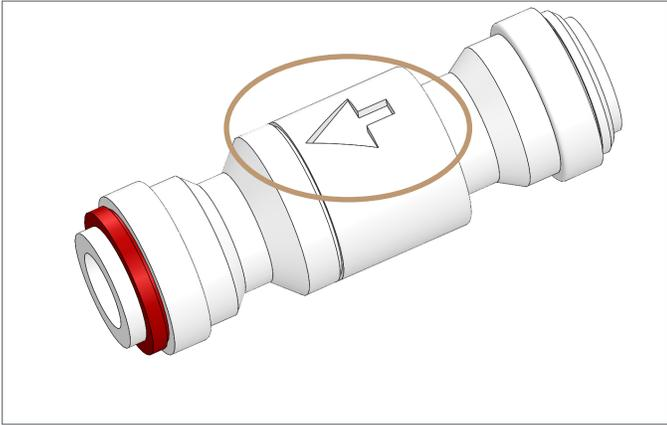
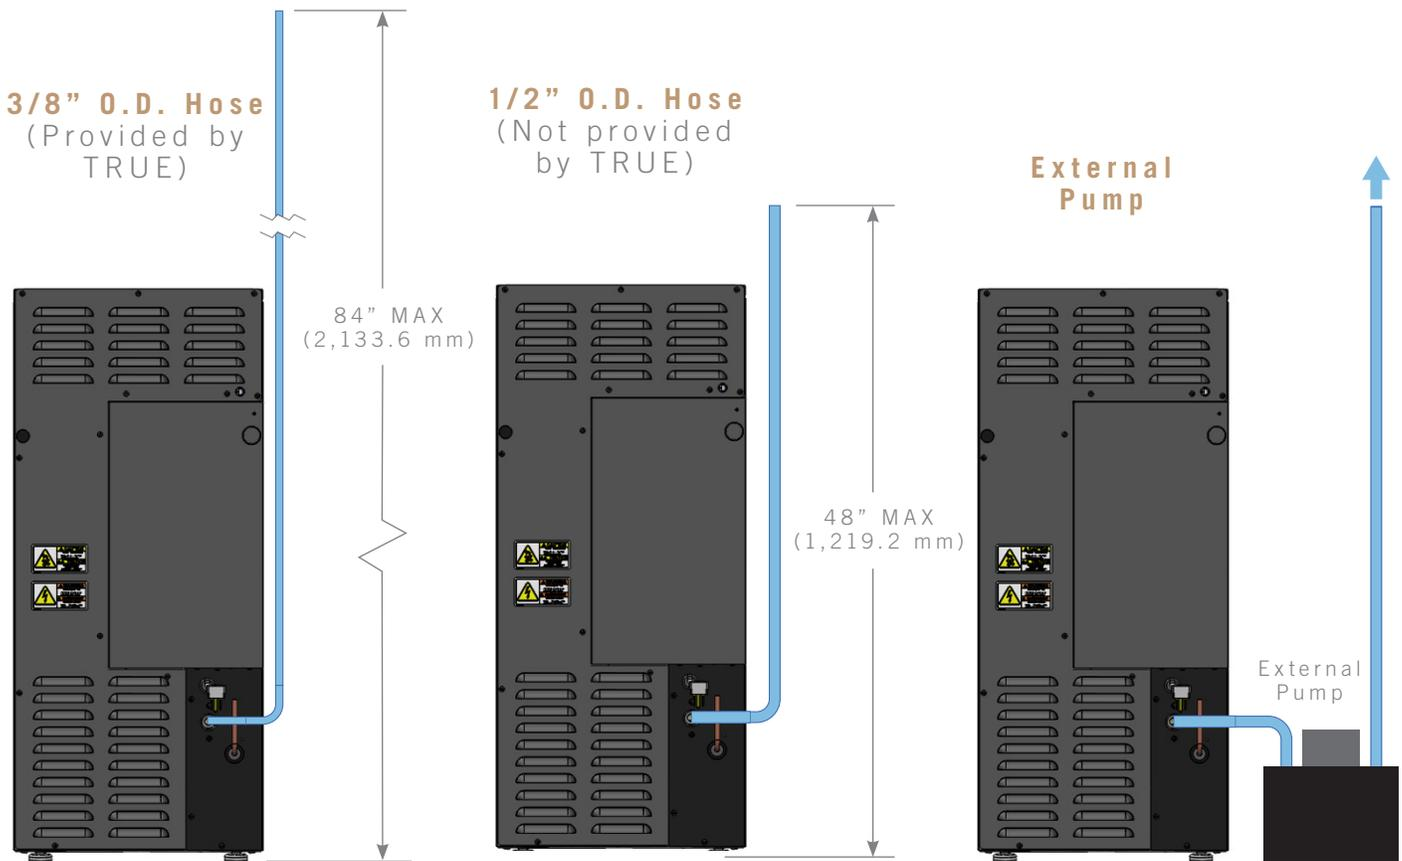

FIG. 4. Water flow arrow on the check valve.
FIG. 5. Installed check valve.
3. With the water flow arrow (see fig. 4) pointing away from the ice machine, connect the cut drain line to the check valve. See fig. 5. Use the provided adapter if needed.